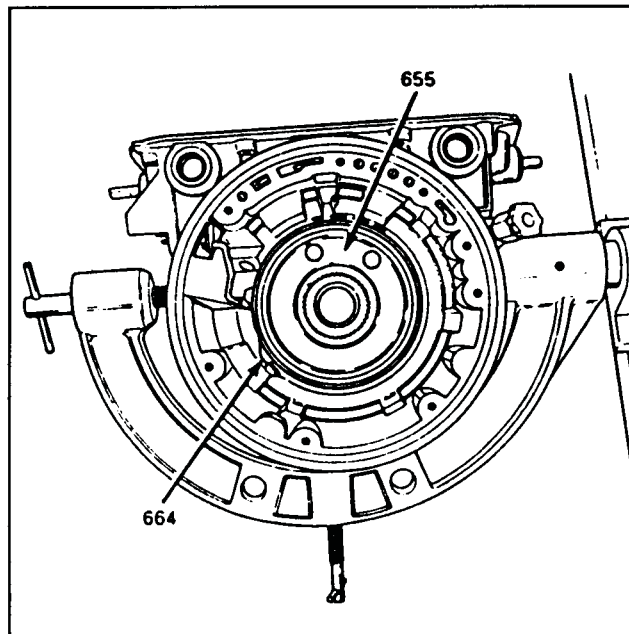

Figure 90
6. Grasping the reaction drum from the inside, install the reaction drum inside of the band and seat to the bottom of the case (See Figure 90). Reaction drum must spin freely inside the case.